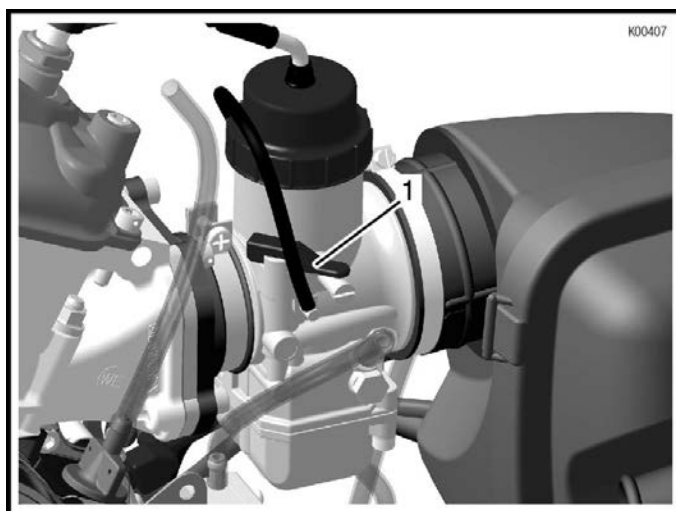

Fig. 5
- ➔ On a cold engine, pull the choke lever (pos. 1, *Fig. 5*) into a vertical position.